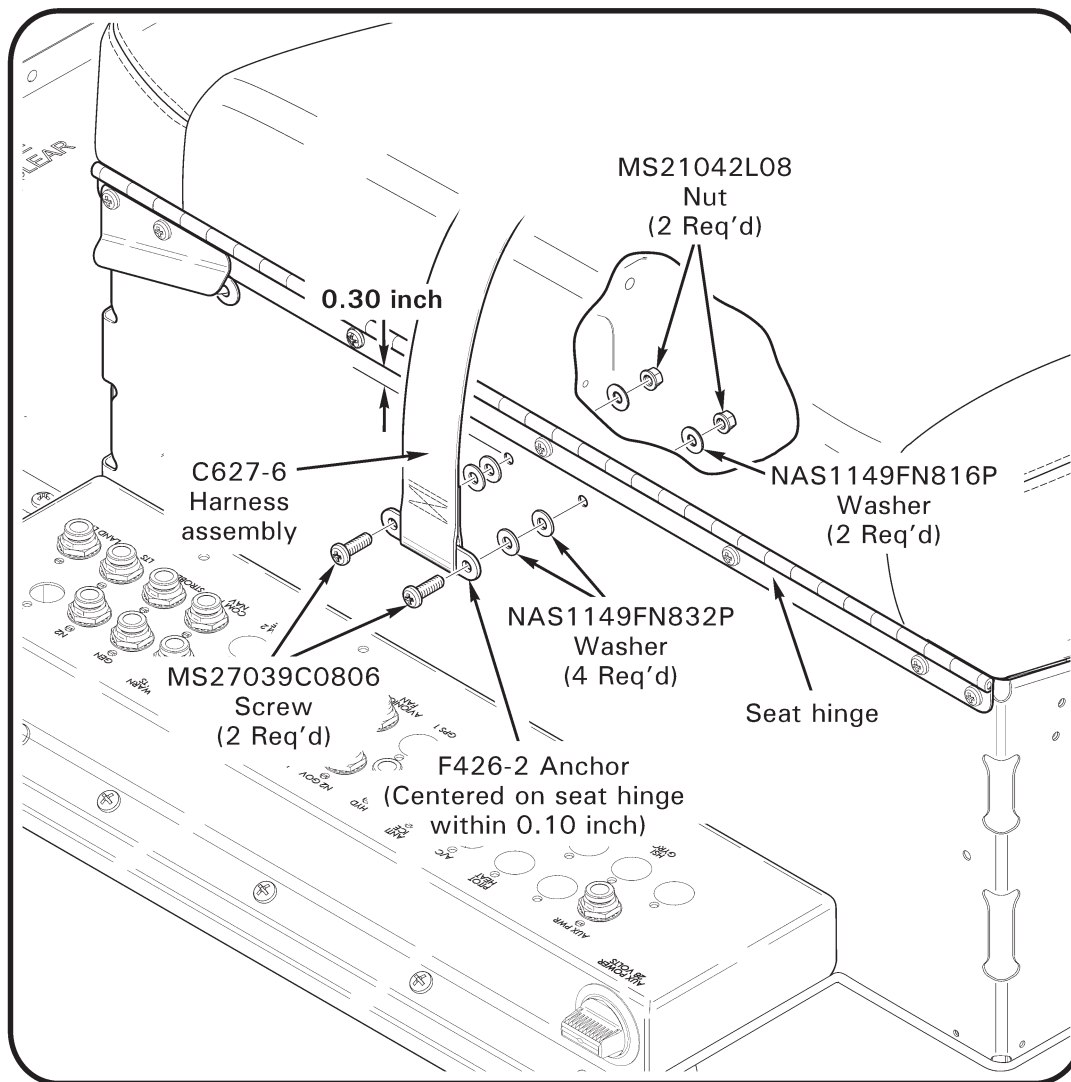

FIGURE 4
14. Refer to Figure 4. Perform the following on LH and RH sides of helicopter: Using fifth-point F426-2 anchor mounting holes as pilot holes, position anchor under seat hinge as shown and drill two 0.170-inch diameter holes thru F290-1 or F297-1 seat support. Install hardware securing fifth-point to seat support and verify security.
(RH side; same as Figure 4 except as shown)